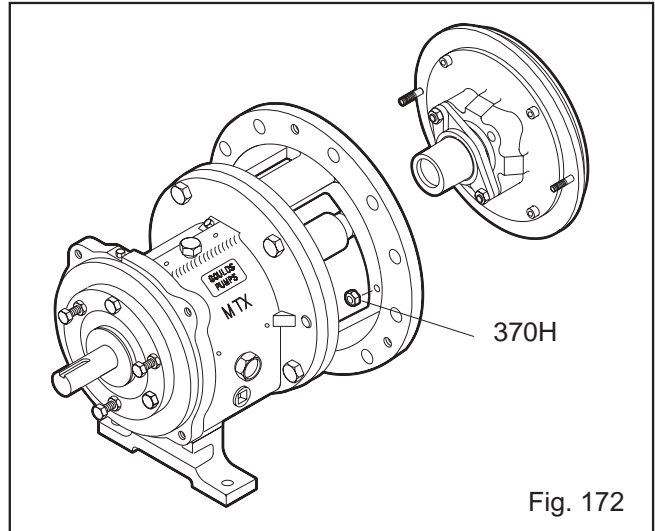

Fig. 172
2. Place repeller (262) in backplate (444), sleeve side up.
3. Place Teflon gasket (264) on backplate (444), lining up holes.
4. Place stuffing box cover (184) on backplate (444), lining up holes.
5. Install four (4) socket head cap screws (265), tighten securely.
7. Install gasket (360Q) and gland (107) on stuffing box cover (184). Install nuts (355).
8. Install dynamic seal assembly. Install nuts (370H) (Fig. 172).